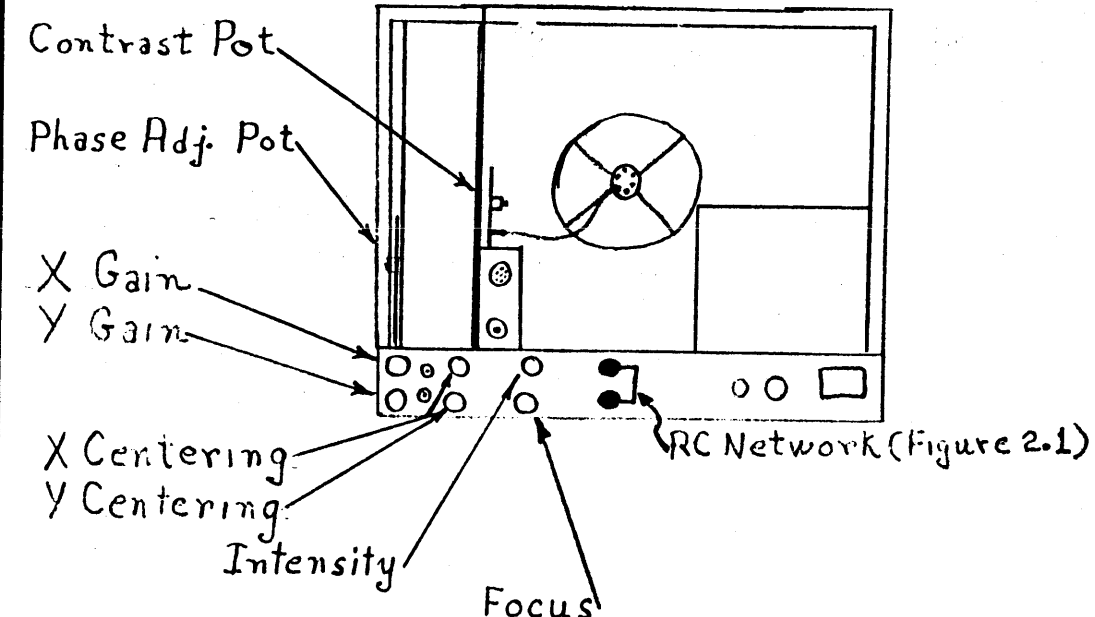

FIGURE 4.5.1
- Figure 4.5.1
The display has a number of straight forward adjustments. See figure 4.5.1 and Table 4.5.1